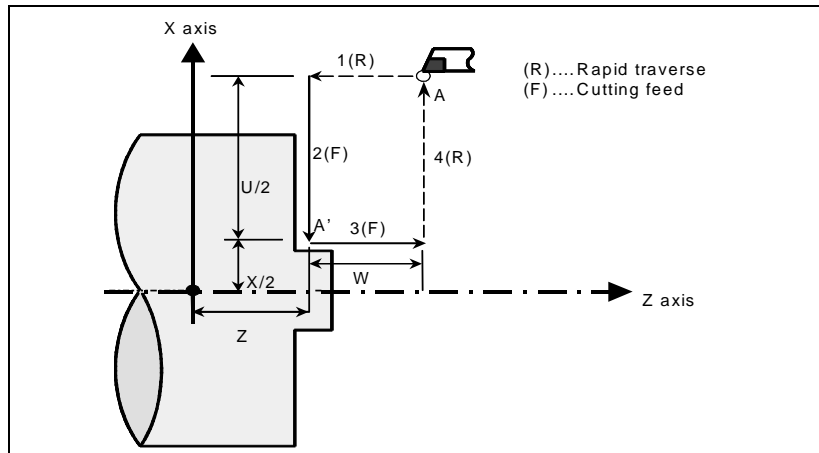

Fig. 6.3.3.1 (a) Face cutting cycle
- X_,Z_ : Coordinates of the cutting end point (point A' in the Fig. 6.3.3.1 (a)) in the direction of the end face
U_,W_ : Travel distance to the cutting end point (point A' in the Fig. 6.3.3.1 (a)) in the direction of the end face